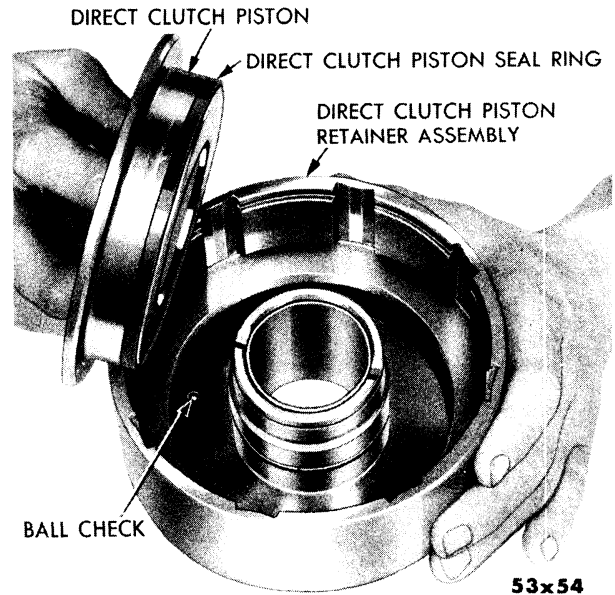

Fig. 89—Removal and Installation of Direct Clutch Piston Assembly
- (8) Using a twisting motion, remove the direct clutch piston assembly from clutch retainer. (Fig. 89.) Note the ball check in clutch retainer housing. The purpose of the ball check is to relieve centrifugal oil pressure when transmission is in neutral and engine speeds are increased (otherwise clutch may engage). Make sure ball operates freely. The bearing used in the direct clutch piston retainer is of the steel-backed bronze type and is not replaceable. If the torque converter reaction shaft seal rings have worn or grooved the bearing so that bronze is no longer visible at that point, replace the direct clutch piston retainer. Inspect the band contacting surface for deep scores and burns, especially if the band lining is worn to the point where the steel band has been contacting the direct clutch piston retainer. Do not turn the direct clutch piston retainer in a lathe to remove score marks. Inspect steel clutch plate contacting surfaces for deep scores and burrs. Replace if needed.